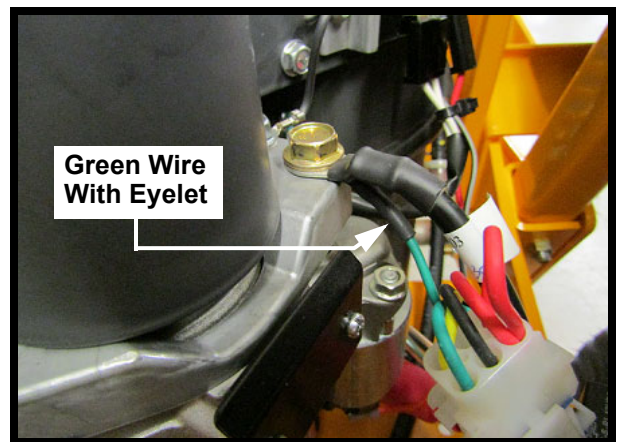

FIGURE 7
15. Remove the M8 x 1 hex head bolt that secures the main harness ground wire. Connect the green wire with eyelet to the engine in the same location the main harness ground wire is attached. Secure in place with the M8 x 1 hex head bolt. See Figure 7.